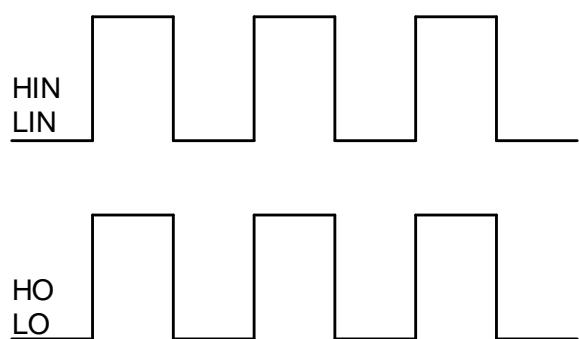

Figure 1. Input/Output Timing Diagram
**Note:** The input/output logic timing diagram is shown in Figure 1. For proper operation the device should be used within the recommended conditions. The  $V_s$  offset rating is tested with all supplies biased at a 15 V differential.
Page 1	Removed "Fig 1."